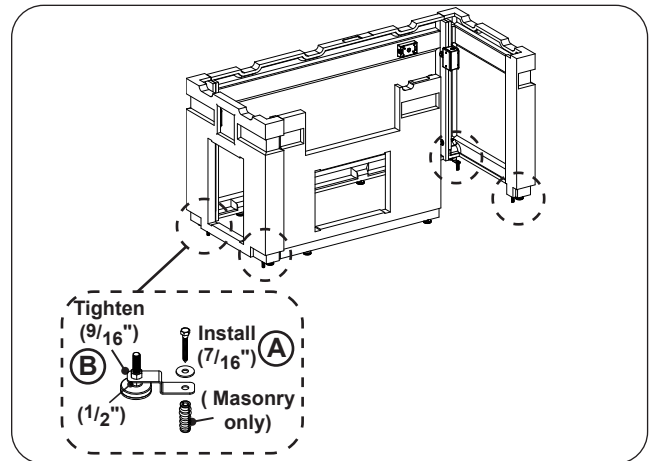

Fig. 9-3 Mount island
1. Secure the island to the floor using the 4 pre-installed mounting brackets. Use a $\frac{7}{16}$ " open end wrench and the supplied mounting hardware as appropriate. See Fig. 9-3, A.
Finish by tightening down the brackets. Hold a leveler in place (below bracket) with a $\frac{1}{2}$ " open end wrench, and tighten the nut (above bracket) using a $\frac{9}{16}$ " open end wrench. See Fig. 9-3, B.